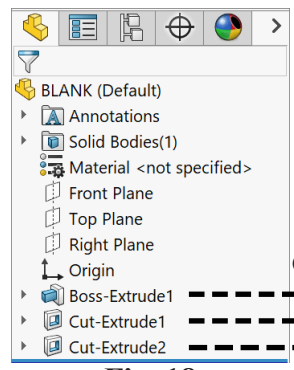

Fig. 18
Step 1. **Rename Features** in the Feature Manager. To rename, slowly click twice over the Feature name (F2) and key-in new name, **Fig. 18** and **Fig. 19**.